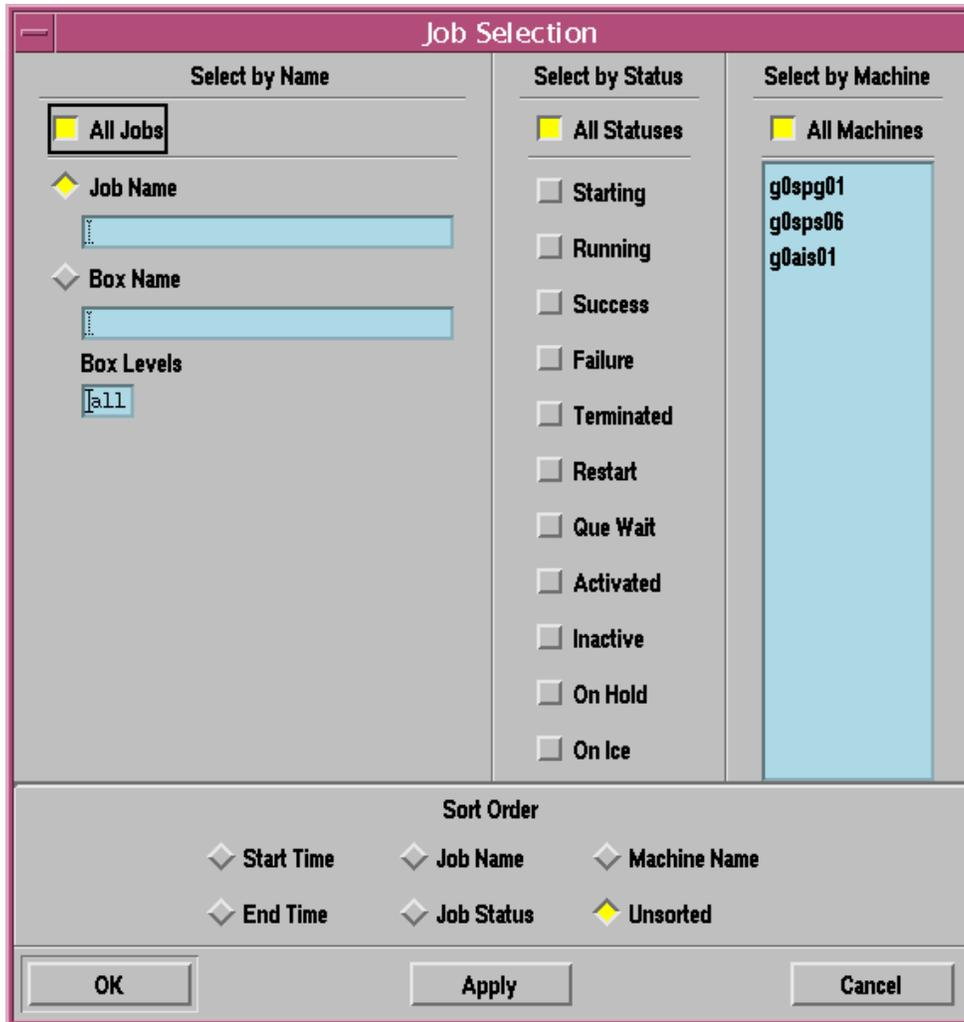

Figure 50. Job Selection GUI
- The **Job Selection** GUI (Figure 50) is displayed.